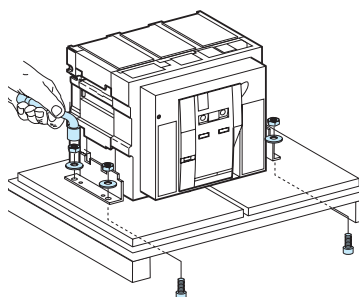

Fig. 1
- remove the two securing brackets (see Fig. 1),